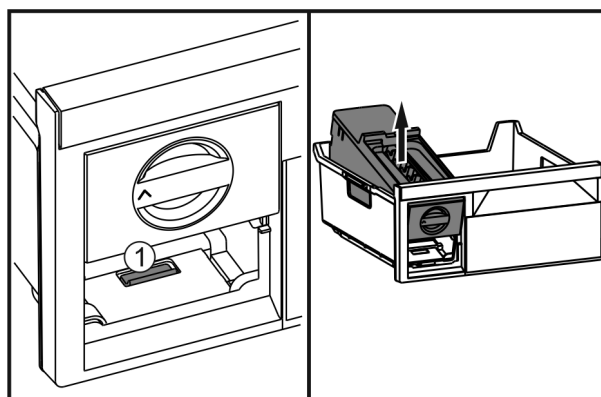

Fig. 37
- Press the lug *Fig. 37 (1)*, lift up the EasyTwist-Ice at the back and take it out of the freezer drawer.